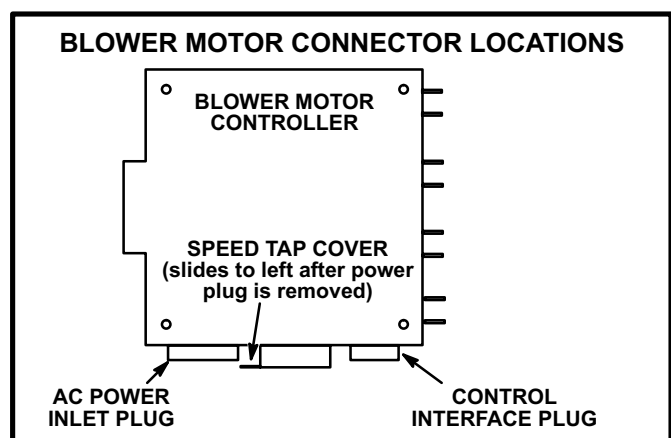

FIGURE 12
- 3- Slide tap cover toward AC power plug. See figure 12.